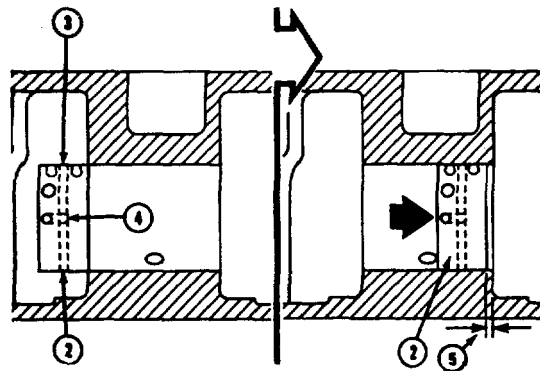
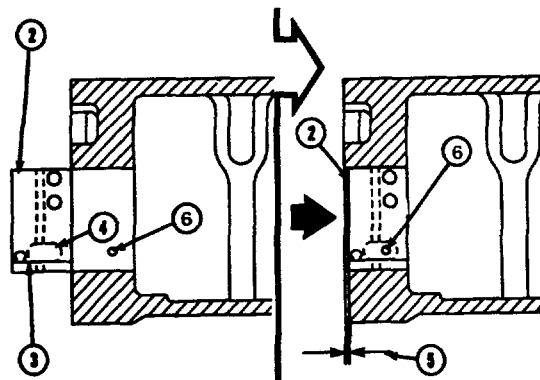

FIGURE 4-87. Two Bushing Installation.
FIGURE 4-88. Single Bushing Installation.
- (1) Position bushing (2, FIG. 4-87) so that clinch joint (3) is pointed toward the cylinder head surface of the block and the elongated hole (4) is on the side nearest to the use of the block.
- (2) Use drive assembly to push bushing through the bore. Ensure bushing is even with or no more than 1/16 inch (1.6 mm) below the surface of the block web (5).
- (3) Install second bushing using same procedure as above.
- (4) Position bushing (2, FIG. 4-88) so that elongated hole in bushing (4) is in line with oil hole in block (6). Ensure oil holes in bushing are nearest to cylinder block and clinch join (3) is pointed toward outboard side of bore.
- (5) Use drive assembly to push bearing in bore until it is even with or no more than 1/16 inch (1.6 mm) below the surface of the block web (5).
- (6) Ensure oil hole in block (6) is open and clean and aligned with elongated hole in bushing (4).